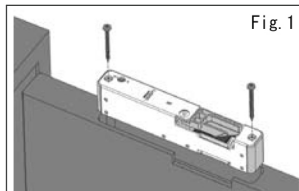

Fig. 1
- Insert the damper body in the cutout made in the door and check that the arm can deploy fully. Mark the screws position and pre-drill two  $\phi 2$ mm holes. Secure using screws 4x45 (Fig. 1).